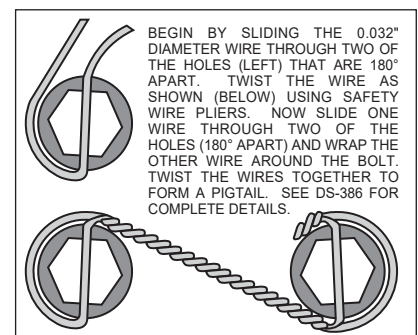

Figure 3. Safety Wire Diagram
- Identify the left and right caliper mounting brackets (1). Both brackets will be offset to the rear of the vehicle with the threaded inserts and the beveled bolt holes facing the outside of the vehicle. Apply red *Loctite*® 271 to bolt threads (2 and 5) before assembly of the caliper bracket (1) to backing plate face of spindle. Insert the two upper mounting bolts (2) and the lower mounting bolt (5) through the caliper mounting bracket (1). Place one upper mounting bracket spacer (3) over each of the upper mounting bolts (2). Slide a lower mounting bracket spacer (6) over the lower mounting bolt (5). Position the caliper mounting bracket (1) onto the spindle, slipping each of the three mounting bolts (2 and 5) through the spindle holes. The lower ball joint may have moved when the original bolts were removed. Re-alignment may be necessary for the lower bolt (5) to slide through. Install two lock nuts (4) on the upper mounting bolts (2) and finger tighten. Install one lock nut (7) on the lower mounting bolt (5) and finger tighten. Torque two bolts (2) to 47 ft-lb. Torque bolt (5) to 65 ft-lb. **NOTE:** Be sure the heads of the caliper bracket (1) insert nuts are facing outward toward the wheel.
- Install five new wheel studs (8) into the hub (9). Torque to 77 ft-lb. **NOTE:** There are two five lug patterns in the hub (5 x 4.50 and 5 x 4.75). Make sure of the correct hole pattern for the correct wheel application before installing studs into hub.
- Pack the large inner bearing cone (10) with high temperature disc brake bearing grease (available from your local auto parts store) and install into the backside of the hub (9). Install the grease seal (11) by pressing into the backside of the hub (9).
- Attach rotor adapter (12) to rotor (13) using six bolts (14). Torque bolts to 180 **in-lb**. Safety wire bolts (14) using standard 0.032 inch diameter stainless steel safety wire as shown in Figure 3. Please refer to Wilwood's data sheet DS-386 (available at www.wilwood.com/Pdf/DataSheets/ds386.pdf) for complete safety wire installation instructions. **NOTE:** The flat side of the rotor (13) lugs face toward the rotor adapter (12) with the dished side of the rotor adapter (12) facing away from the rotor (13).